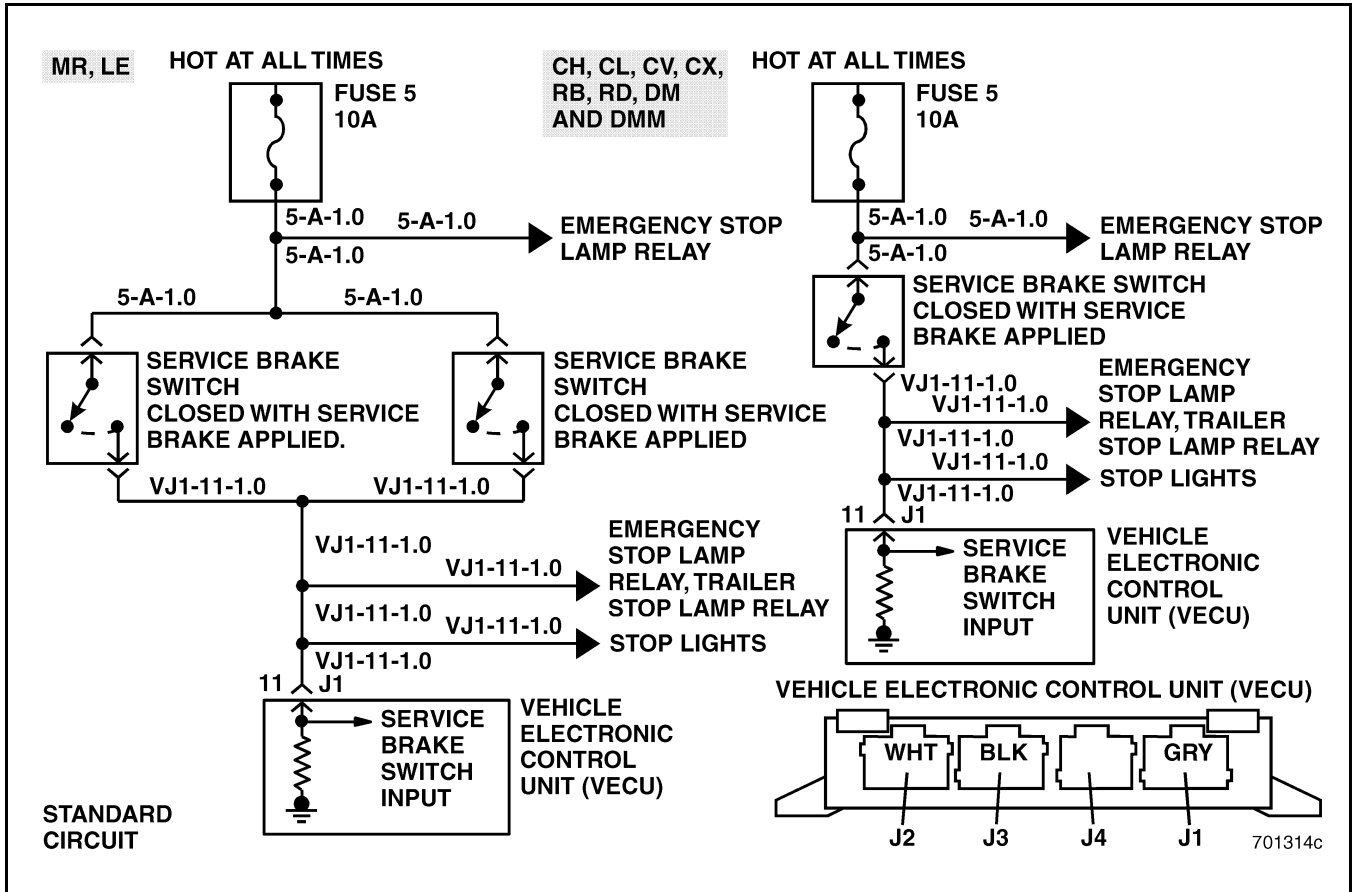
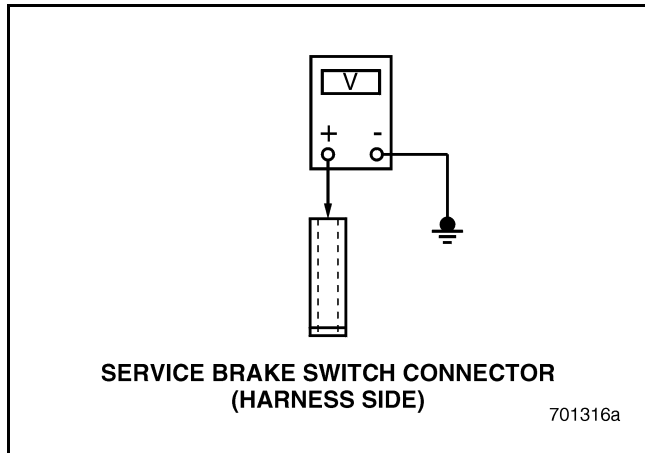

Figure 683 — Service Brake Standard Circuit
Figure 686
4. Measure the voltage between the service brake switch voltage supply connector (5-A-1.0 or 14WE-BN) and a good ground (see Figure 683 and Figure 686).